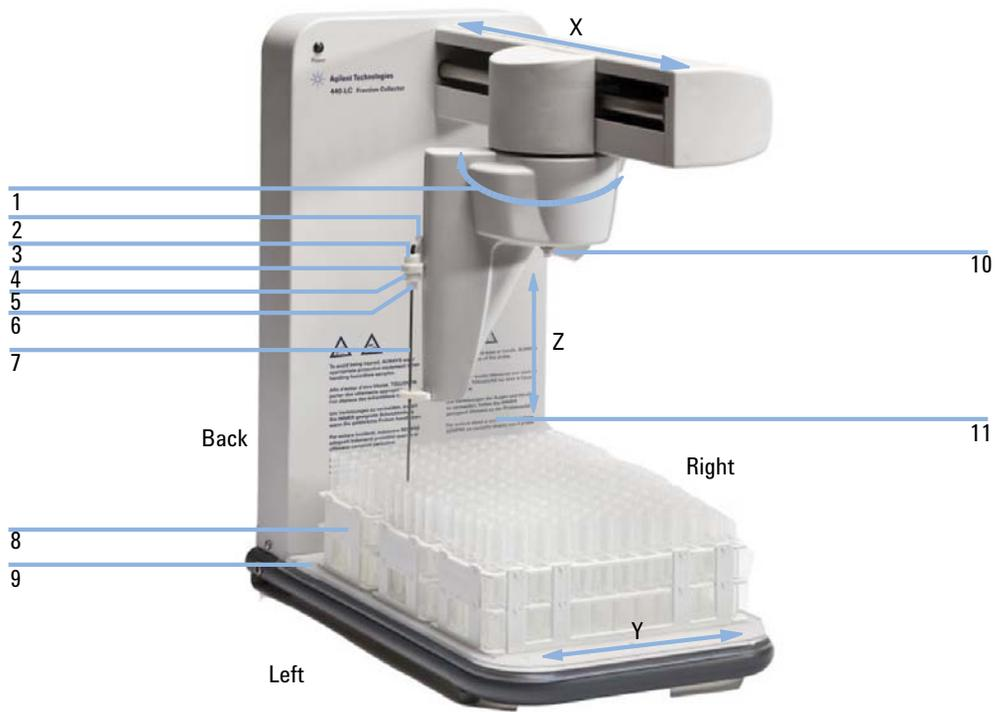

Figure 18 Fraction collector components
- 5 Insert the probe into the probe mounting block (see Figure 18 on page 83).